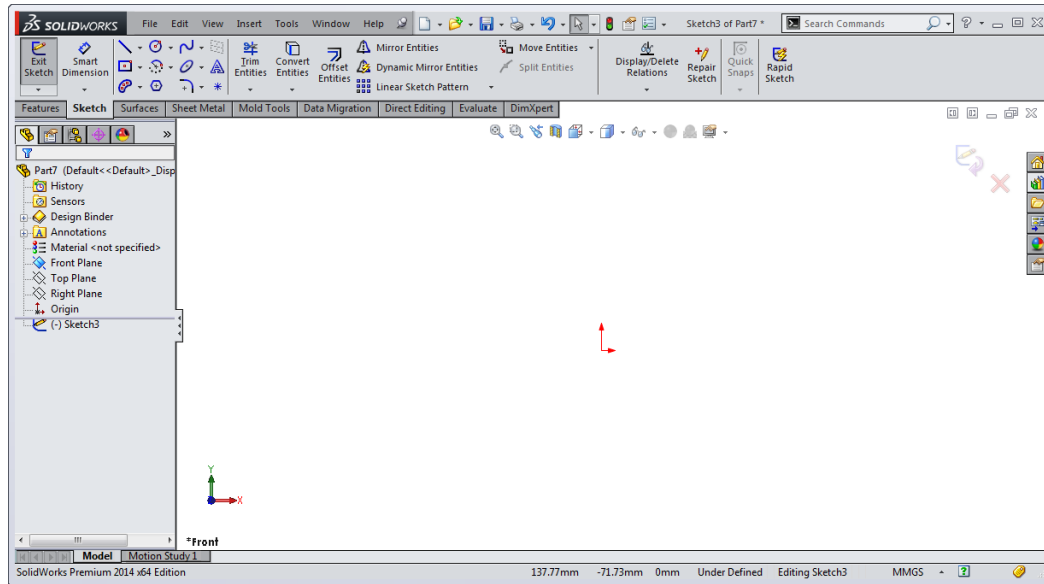

Figure 2-58 Screen display in the sketching environment
5. Select the **Front Plane** from the drawing area; the sketching environment is invoked and the plane gets oriented normal to the view. You will notice that red colored arrows are displayed at the center of the screen, indicating that you are in the sketching environment. Also, the confirmation corner with the **Exit Sketch** and **Cancel** options is displayed on the upper right corner in the drawing area. The screen display in the sketching environment of SolidWorks is shown in Figure 2-58.